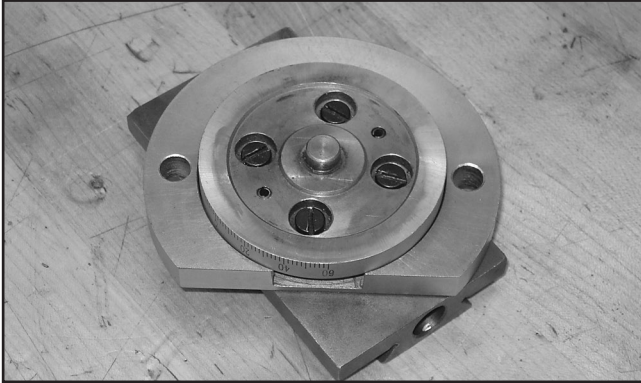

Figure 14. Adapter plate with circular base attached to new sliding base.
20. Attach the adapter plate with circular base to the base with the two guide pins and four cap screws that were removed during **Step 3**, as shown in **Figure 14**.